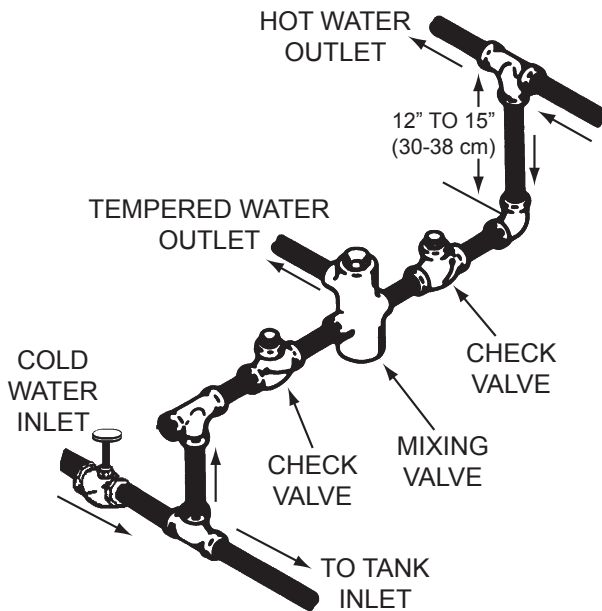

Figure 5. Mixing Valve
*In addition to using the lowest possible temperature setting that satisfies the demand of the application a means, such as a thermostatic point-of-use mixing valve, for example, can be used at the hot water taps used by these people to reduce the water temperature. See Figure 5 (page 16).*